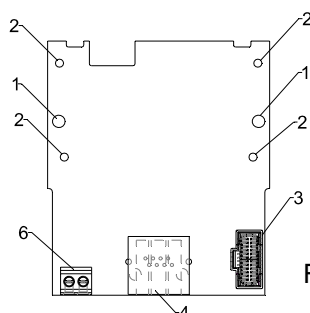

Fig. 8-13
- Installation: B side of the connecting wire connects to connection port on option card as No.3 of CMM-MOD01 shown in Fig. 8-13. See each section in Chapter 8 for connection port of other option cards; A side of the connecting wire connects to connection port on control board as red circles shown in Fig. 8-13 ~ 8-15.